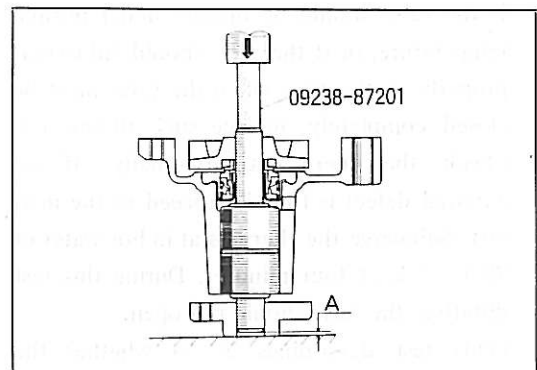

Fig. 7-18 Press-Fitting Water Pump Pulley Seat
2. Press the seat, until the dimension A in Fig. 7-18 becomes the numerical value given below.